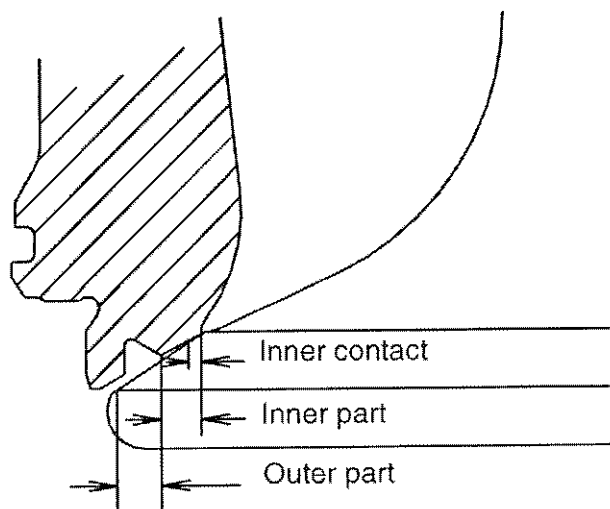

Fig. 1: Inner contact, and zone designation
Fig. 1 shows inner contact between the seats of the spindle and bottom piece, corresponding to slow/low-load/manoeuvring condition.
There must be no blow-by "tracks" across the inner part of the seat (Figs. 1 + 4, and Photo 1).
- Check the outer part of the seat for high temperature corrosion (*Fig. 1 and Photo 3*).